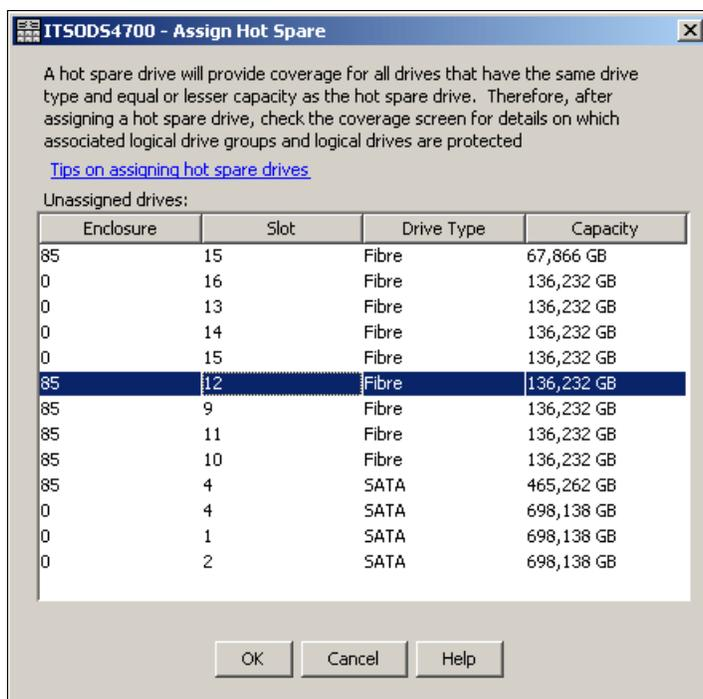

Figure 5-50 Assign hot spare
3. Click the **Assign** option button. The window shown in Figure 5-50 appears.
We can see in Figure 5-50 that we have both FC and SATA drives. One of the reasons that some drives are not hot spare protected is because there are no FC hot spares assigned. Another reason could be the size of the drives. To correct that: